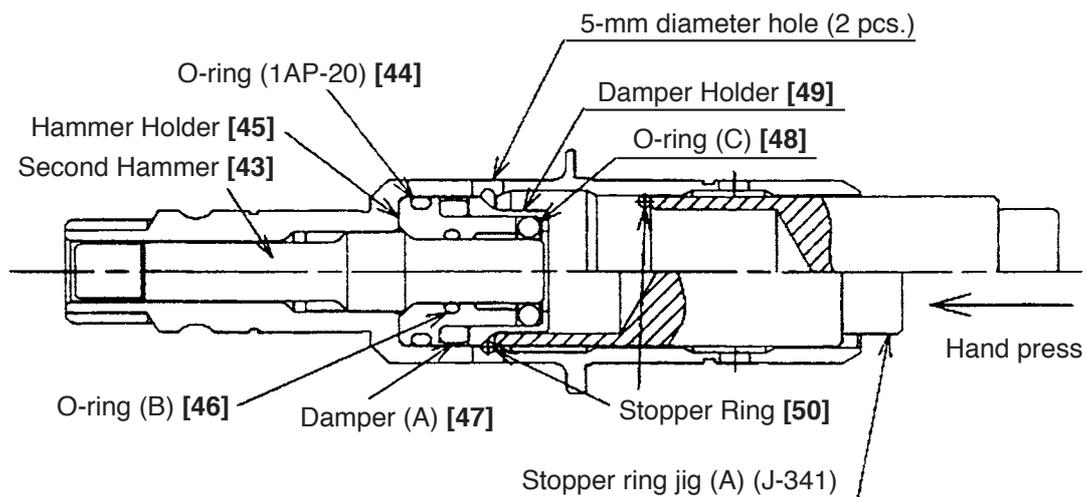

Fig. 25
Mount the Second Hammer [43], O-ring (1AP-20) [44], Hammer Holder [45], O-ring (B) [46], Damper (A) [47], new O-ring (C) [48] and Damper Holder [49] in the Cylinder [38]. Push the new Stopper Ring [50] in the Cylinder [38] then push in the hole side of stopper ring jig (A) (J-341) on it as shown in Fig. 25. Push the upper end surface of stopper ring jig (A) (J-341) with a hand press to fit the Stopper Ring [50] in the groove of the inside diameter portion of the Cylinder [38]. Check that the Stopper Ring [50] is securely fitted in the groove of the inside diameter portion of the Cylinder [38] viewing from the 5-mm diameter hole (2 pcs.) on the Cylinder [38].